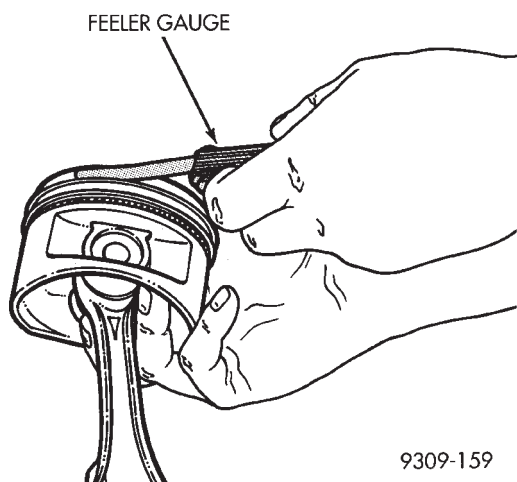

Fig. 8 Measuring Piston Ring Side Clearance
(2) Check piston ring to groove clearance: (Fig. 8). Refer to Piston Ring Specification Chart.